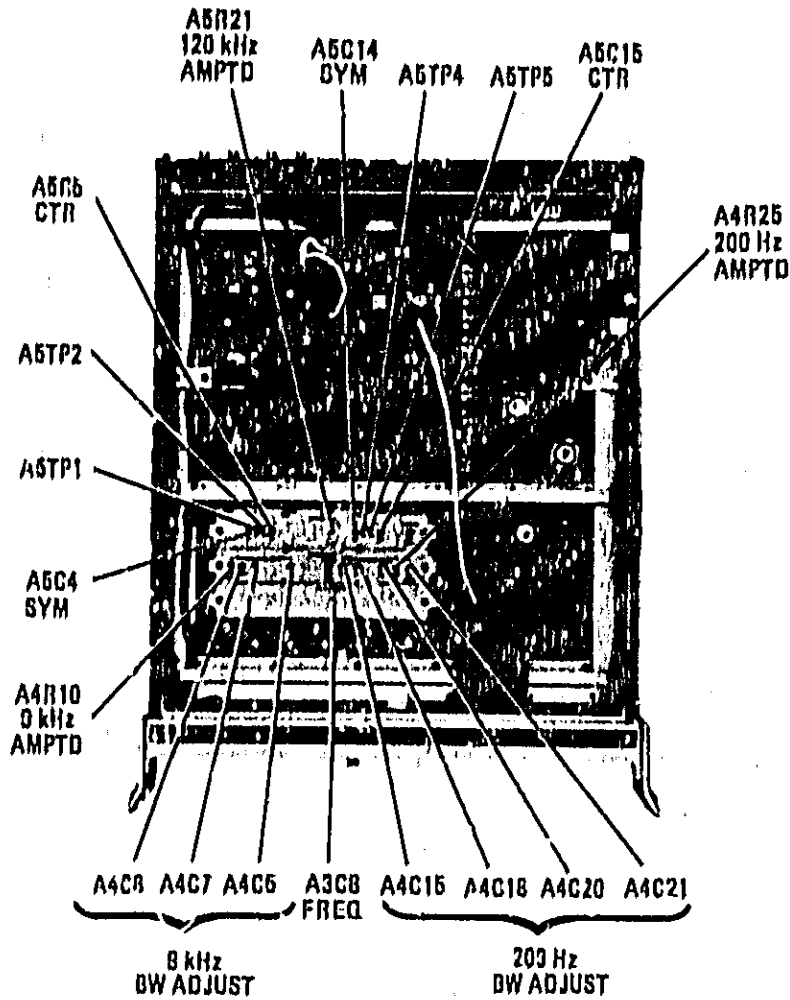
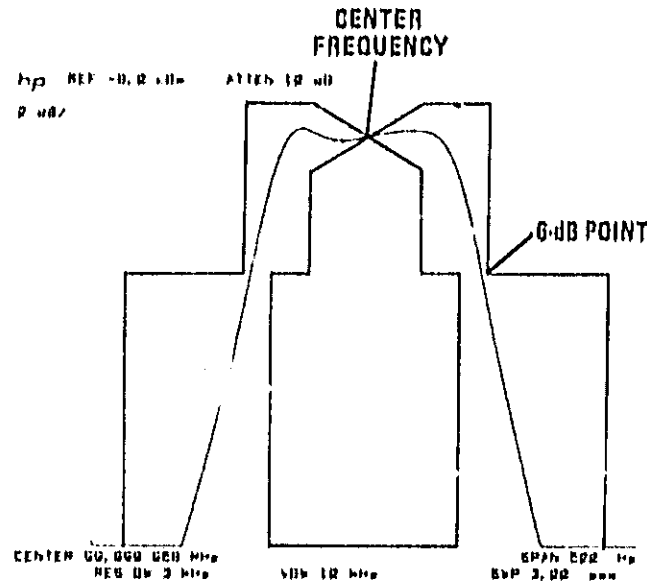

Figure 5-4. Bandwidth Filter Adjustment Locations
Figure 5-5. Error Limits for 200-Hz Bandpass Filter
5. (See Figure 5-4 for adjustment locations.) Adjust A3C8 FREQ and A4C15, A4C18, A4C20, and A4C21 (200 Hz BW ADJUST capacitors) for flat bandpass response centered on CRT display (Figure 5-5). Adjust A4R25 200 Hz AMPTD to set amplitude of response to center frequency point of graph.
FREQ adjustment A3C8 is used to center the signal, while the remaining adjustments are used to adjust bandpass and flatness. If centering cannot be achieved, the value of A3C7* can be changed to shift the range of A3C8. If the plates of A3C8 are fully meshed, increase the value of A3C7*. Refer to Table 5-1 for the range of acceptable values for A3C7*. Figure 5-5 shows a typical response of the 200-Hz bandpass filter with CISPR error limits indicated.
6. Check that response is within CISPR error limits displayed on CRT (Figure 5-5).